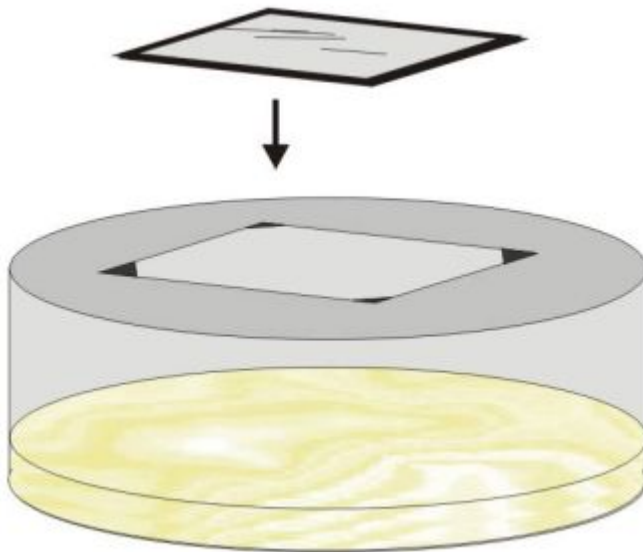

Fig. 1: Arrangement at etching.
- close the vessel and place your section onto the aperture which has the appropriate size for your sections; take care that it fits precisely into the frame, leaving no leakage gap. (Fig. 1)